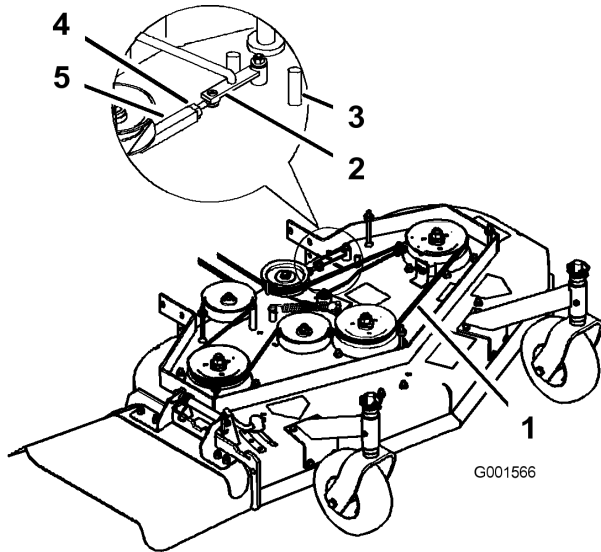

Figure 39
- Loosen the locknut on the turnbuckle (Figure 39).
- Rotate the turnbuckle toward the rear of the mower to increase the tension on the belt. Rotate the turnbuckle toward the front of the mower to decrease the tension on the belt (Figure 39).